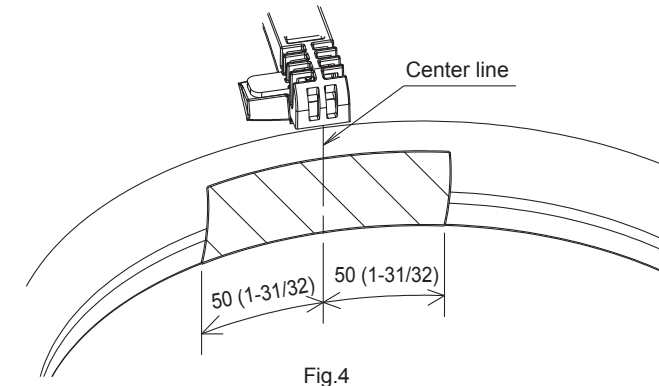
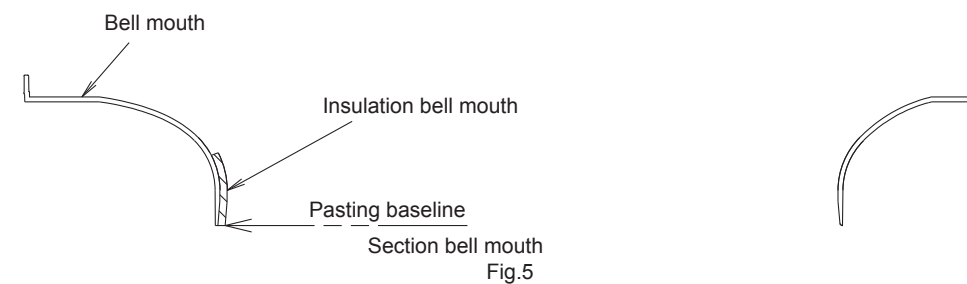

Fig.4
Fig.5
(2) At air outlet B, attach the insulation bell mouth onto the bell mouth as shown in Fig.4 and Fig.5.